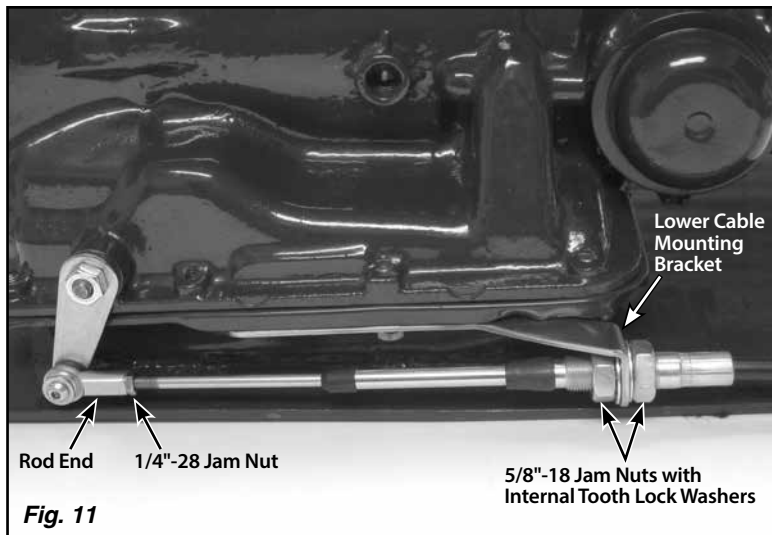

Fig. 11
- **TH350 and TH400** transmissions use a 1/4"-28 x 1" button head bolt, flat washer, and nylock nut. The rod end attaches to the outside of the trans gear lever, away from the transmission. The button head bolt can be installed from either direction, but make sure the rod end is sandwiched between the flat washer and the trans gear lever. **Fig. 11 & 12**
- **700-R4, 200-4R, and 4L60** transmissions use a 1/4"-28 x 1" flat head bolt, flat washer, and nylock nut. The flat head bolt is installed from the inside of the trans gear lever, and the rod end attaches to the outside of the trans gear lever, away from the transmission. Make sure the rod end is sandwiched between the flat washer and the trans gear lever. **Fig. 11 & 13**
- **4L60E** transmissions use a 1/4"-28 x 1" button head bolt, a 1/8" spacer, a flat washer, and a nylock nut. The rod end attaches to the inside of the trans gear lever, towards the transmission. The 1/8" spacer goes between the rod end and the trans gear lever. The button head bolt can be installed from either direction, but make sure the rod end is sandwiched between the flat washer and the spacer. **Fig. 11 & 14**